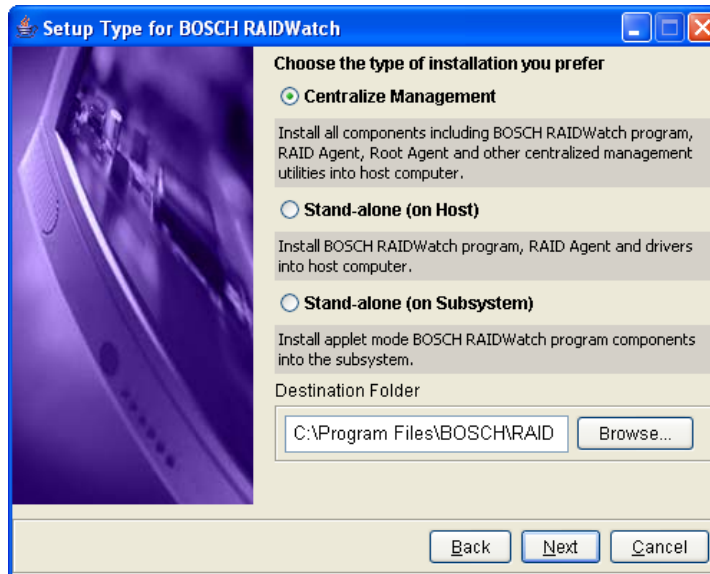

Fig. 1.3 Installation Options
Bosch RAIDWatch supports local or remote management of Bosch RAID subsystems over a LAN/WAN or the Internet using the TCP/IP protocol. Bosch RAIDWatch can be highly flexible to access to a RAID subsystem. When "Custom" installation is chosen during the installation process, three (3) installation schemes are available for you to select using the install shield program. (See *Figure 1.3*) Below sections are the explanations of the three options.